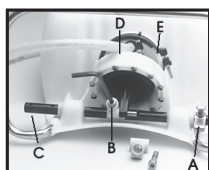

Figure 1
1. Using a 13mm socket wrench, remove handle bolts and loosen the stop plate (A) and remove the two allen head screws (B) that hold the connecting pieces to the pump rod. Figure 1.